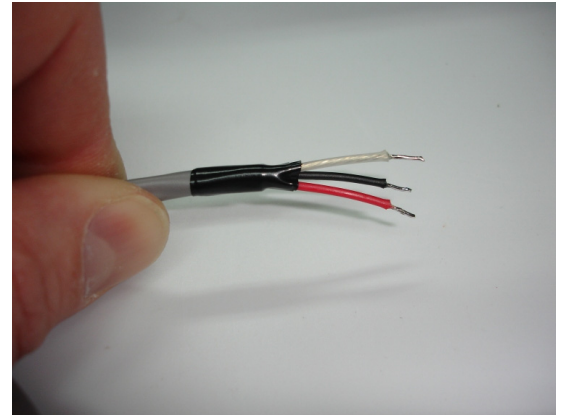

Figure 3
2. At one end of the cable, strip 1/8 inch of insulation off of the black, red and white wires and tin the exposed copper using the soldering iron. Trim the shield drain wire completely off. Cover the end of the sheath with electrical tape. See figure 3.